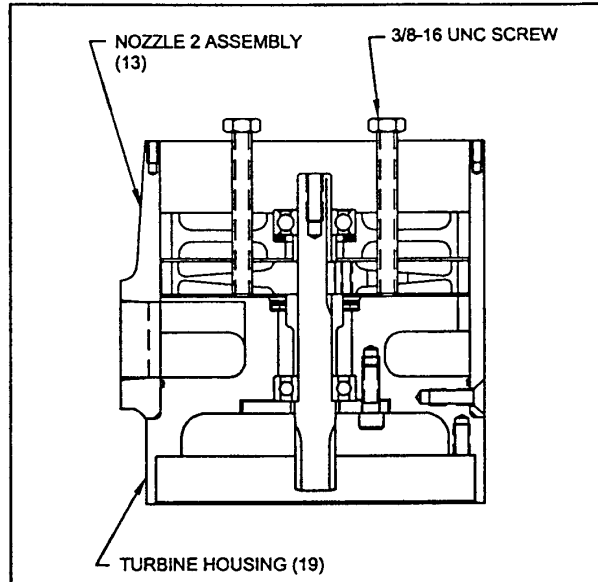

Figure 8. Nozzle 2 Removal
Remove five screws (14) from the stage 2 nozzle (13) and separate it from turbine housing (13). If turbine housing is too tight, it can be removed by installing two threaded screws into nozzle 2 (exhaust end) and using them as jacks to separate the turbine housing from nozzle 2. Refer to Figure 8.